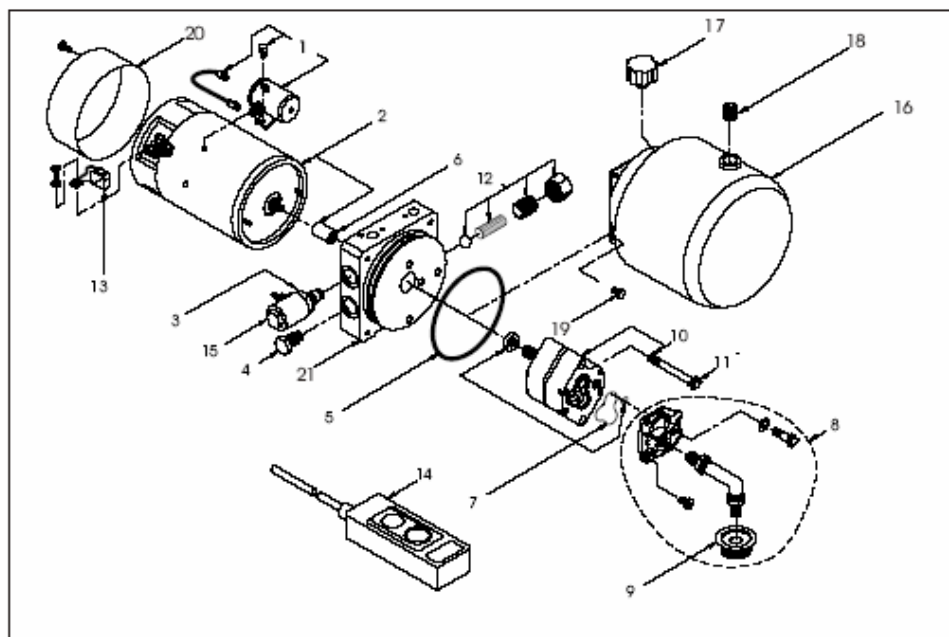

Fig 1.1 Power pack exploded view
Fig 1.1 shows a basic **single acting** power pack which has a solenoid lower valve (item 3) to lower the load under gravity.
The **remote valve** version looks similar to the unit in Fig 1.1 however it does not have a solenoid lowering valve (item 3).